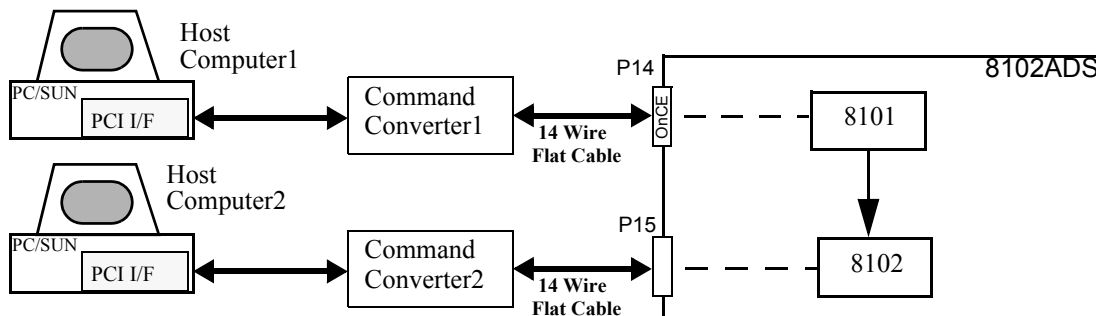
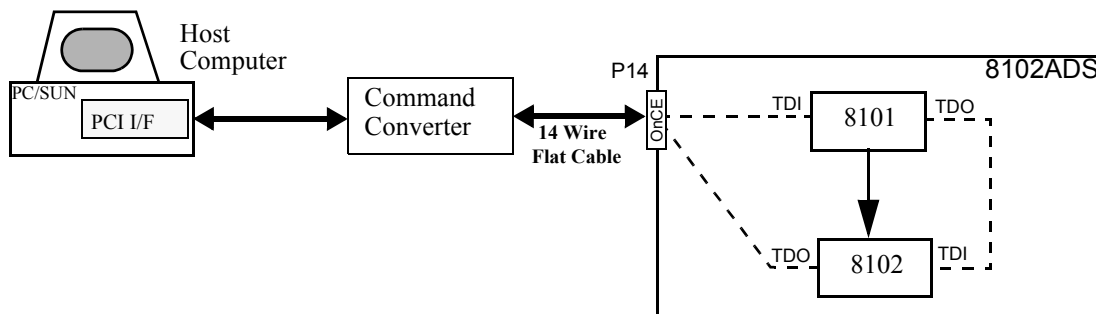
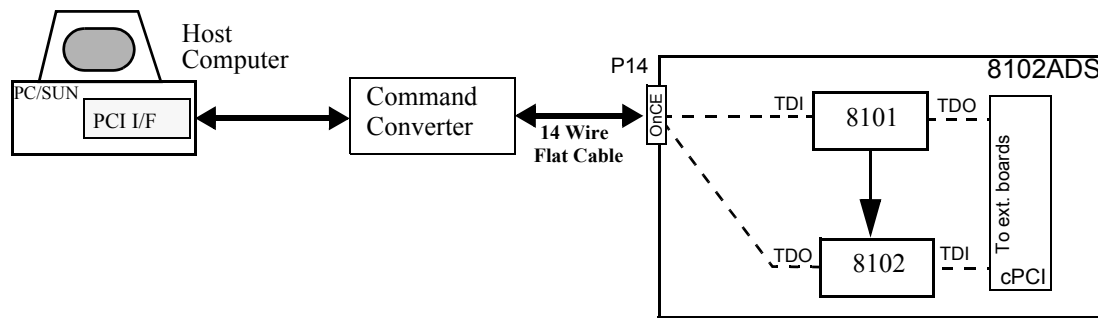

Figure 3-9 Host System Debug Scheme A (spitted)
Figure 3-10 Host System Debug Scheme B (daisy-chained)
Figure 3-11 Host System Debug Scheme C (daisy-chained)
In the Debug Connection Scheme configuration the MSC8102ADS is controlled by a host computer via the OnCE Port, a subset of a JTAG port. This configuration allows for extensive debugging using an on-host debugger. The Host is connected to the ADS via a Command Converter provided by a third party such as Macraigor Systems. A PCI host debug interface is preferred due to the faster throughput offered by a parallel port interface. Three possible connections are shown in the figures below: Figure 3-9 Host System Debug Scheme A (spitted), Figure 3-10 Host System Debug Scheme B (daisy-chained) and Figure 3-11 Host System Debug Scheme C (daisy-chained).
- 1) Connect the External Command Converter to the front “OnCE” (P14) connector for B and C debug scheme (Figure 3-10 and Figure 3-11) and to P14 and/or to header P15 for A debug sheme (Figure 3-9).